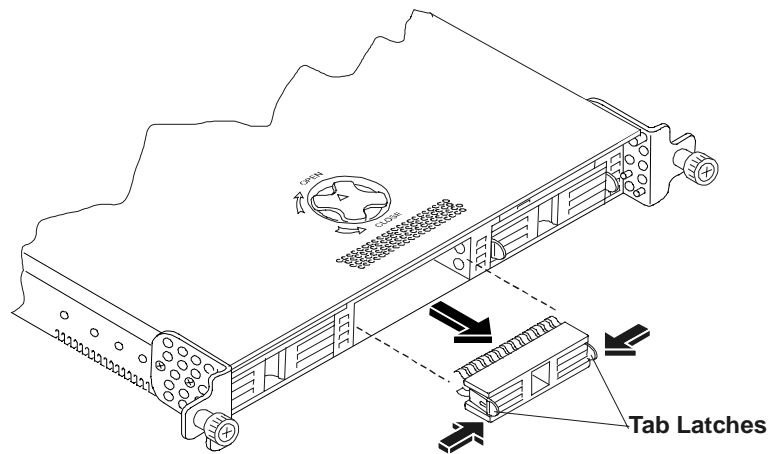

Figure 3-2. Releasing the Filler Panel's Tab Latches
- a. Place a thumb and index finger on the tab latches on the sides of the filler panel, as shown in Figure 3-2.
- c. While keeping both tab latches depressed, pull the filler panel out of the drive bay. See Figure 3-2.